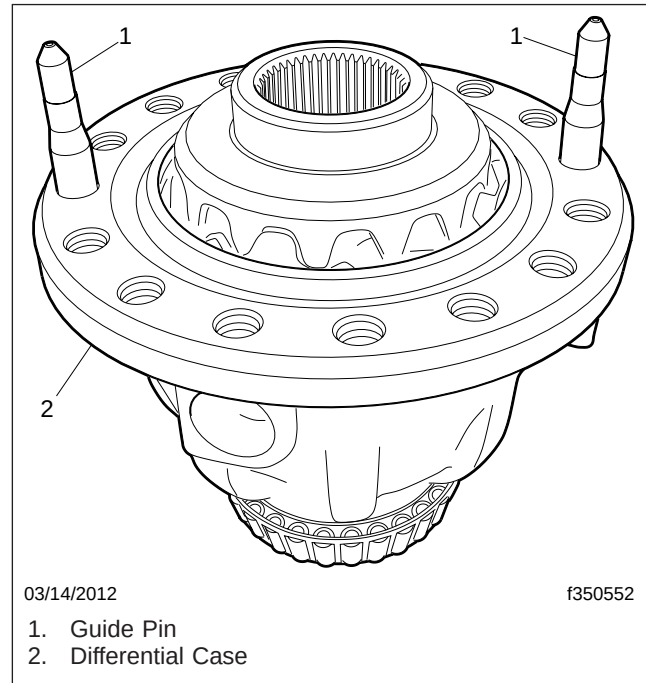

Fig. 4, Guide Pins Installed in Differential Case
14. Install the guide pins. See Fig. 4.